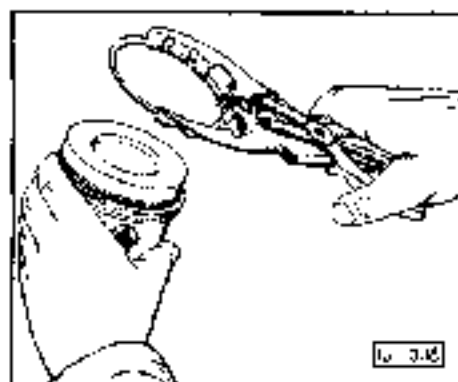

Fig. 2. Expanding and installing piston ring
- Removing and installing with master pins (Fig. 2)